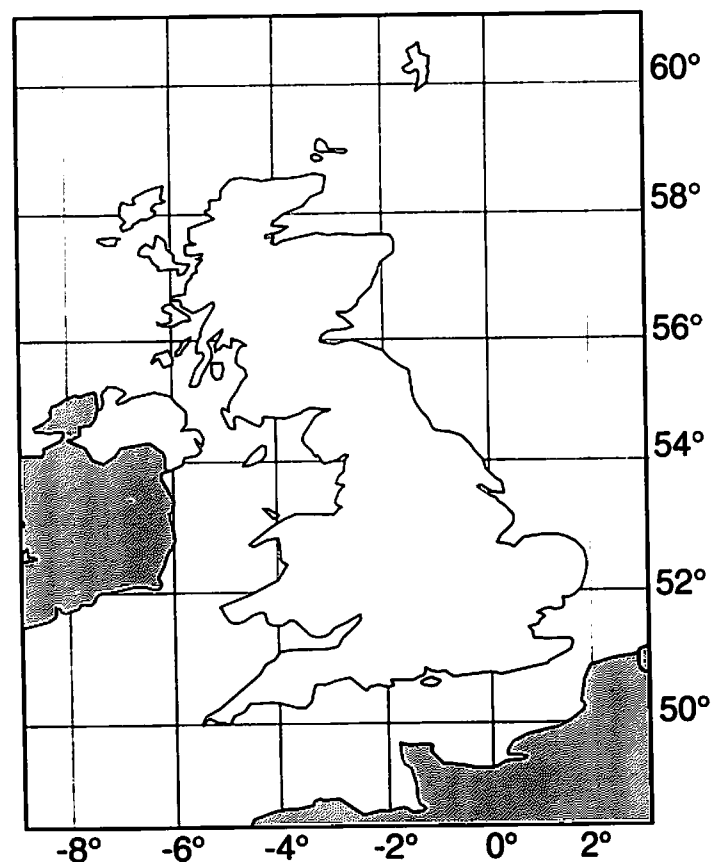

Fig. 6
- Press "+" or "-" button until correct latitude is displayed. See Fig. 6, page 14, for UK variants.
- Press "+" or "-" button until correct longitude is displayed. See Fig. 6, page 14, for UK variants.